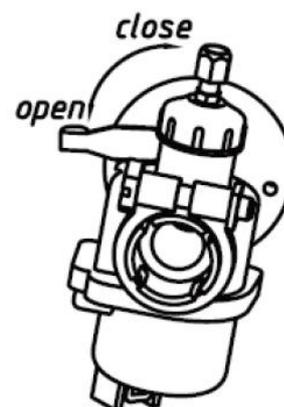

Fig 8
(4) Regulating the choke (see Fig. 8) when starting the engine in cold weather or starting it for the first tie, pull the chock handle out to shut up the air passage, when starting a hot engine ,leave the chock fully opened.